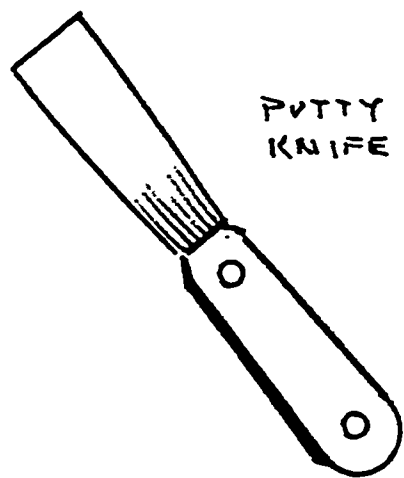

FIG 404
4. Putty knife. See Figure 404.